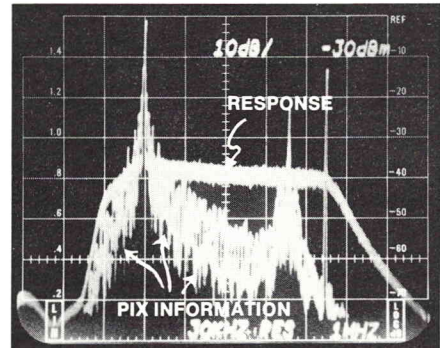
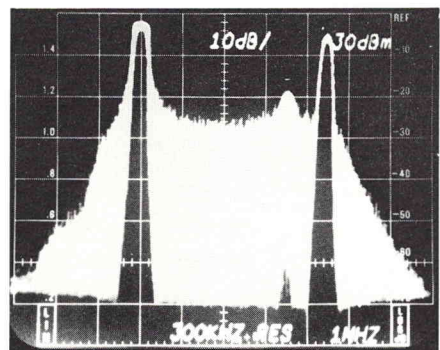

Figure 10. In-Service VIT Sideband Analysis Using Noise
Figure 10a. In-Service VIT Sideband Analysis Using Noise
Then connect the RF of the TV transmitter to the spectrum analyzer plug-in and select the RIGHT VERT MODE. By using storage and adjusting the INTENSITY, a display of the sideband response should appear as shown in Figure 10 or 10a (enclosed). Figure 10a is normally the resultant display and shows the sideband response outline.
4. Using storage, a picture of the sideband response will be slowly 'painted' upon the screen similar to Figure 10.